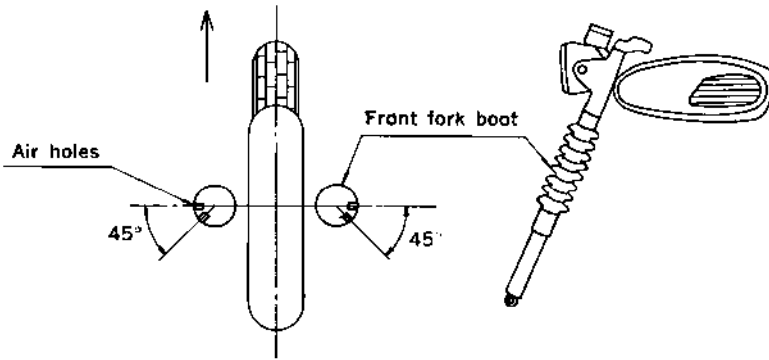

Fig. 99 Assembling front fork
2. Place the air holes on the rubber boot facing back to prevent dust entering as shown in Fig. 99.